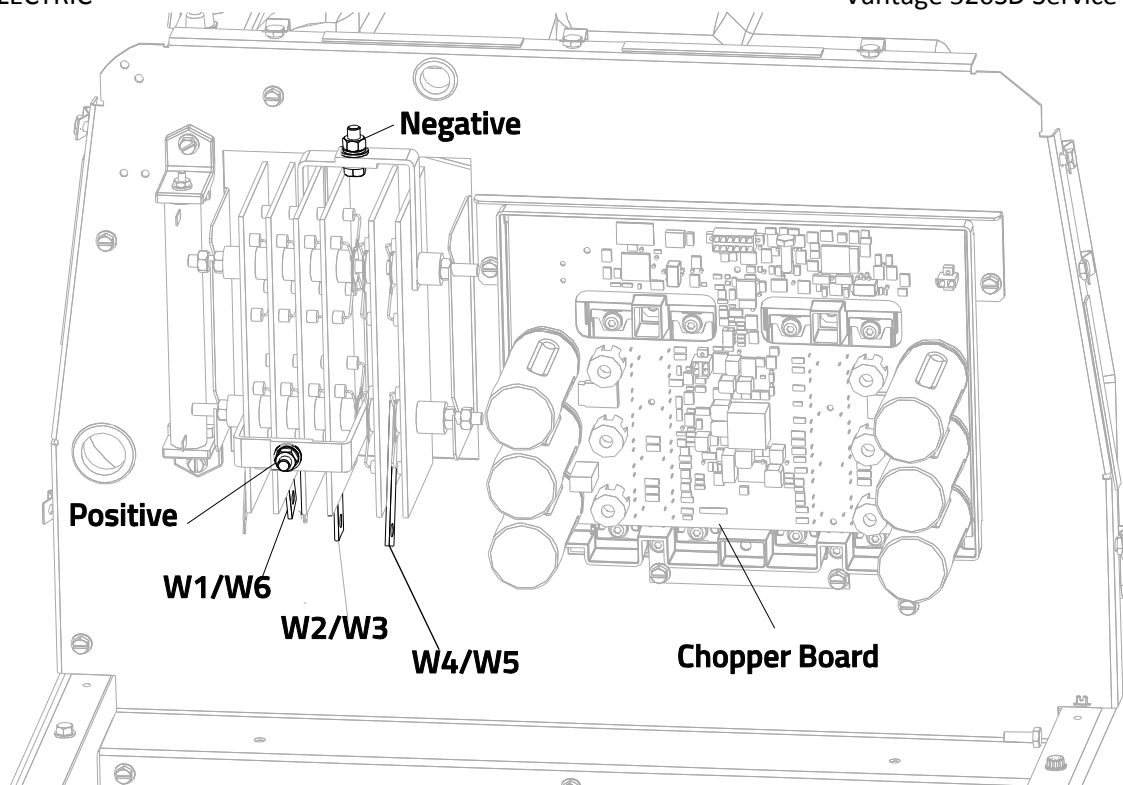

Figure F-15
- **SEE FIGURE F.15. SEE WIRING DIAGRAM.**